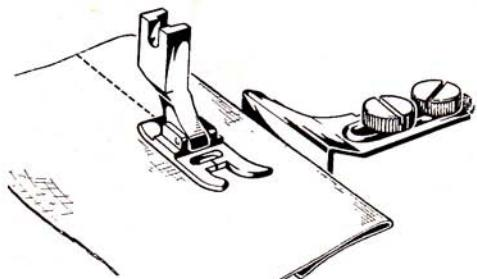

Fig. 36
- a) Attach cloth guide to needle plate by means of thumb screws which fit into the screw holes in the bed of the machine (Fig. 36).